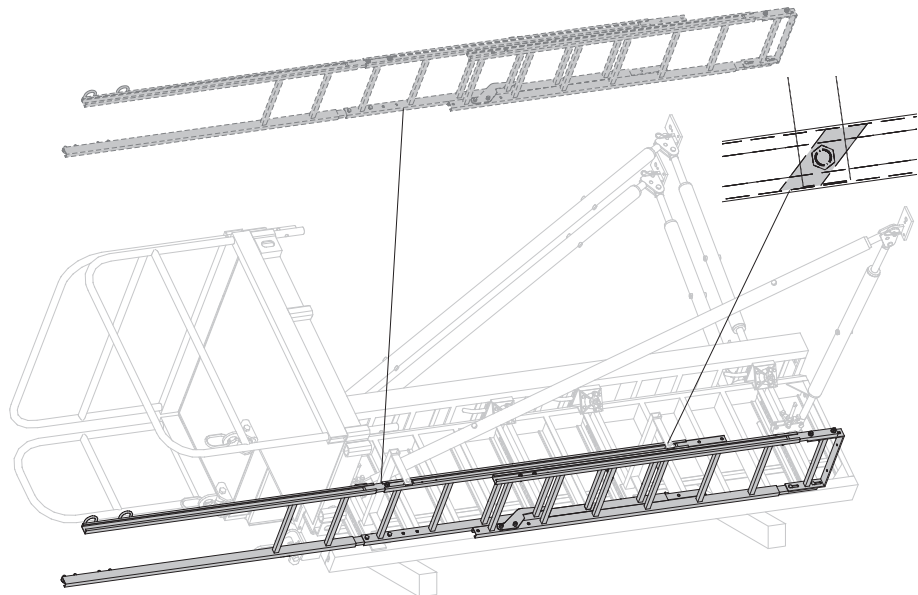

Fig. A2.16
- Mount ladder base and ladder to bottom ladder, SW 19. (Fig. A2.16)